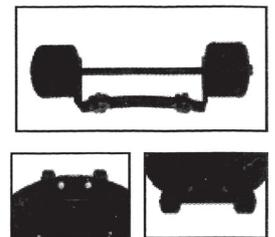

Fig. 4
Attaching the wheel assembly to base (Fig. 4)
1. Put the 3 post brackets on each position on the base as shown in figure 4.